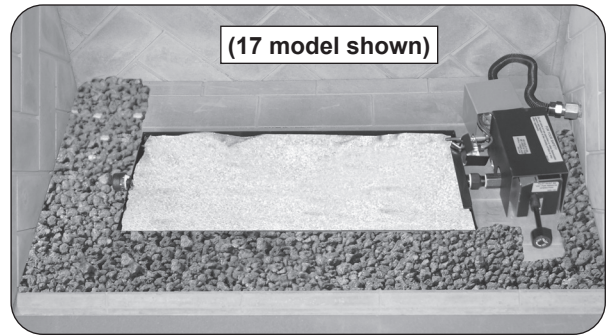

Fig. 19-1 Place sand/vermiculite
1. Fill the burner pan completely with the sand/vermiculite (see Fig. 19-1).